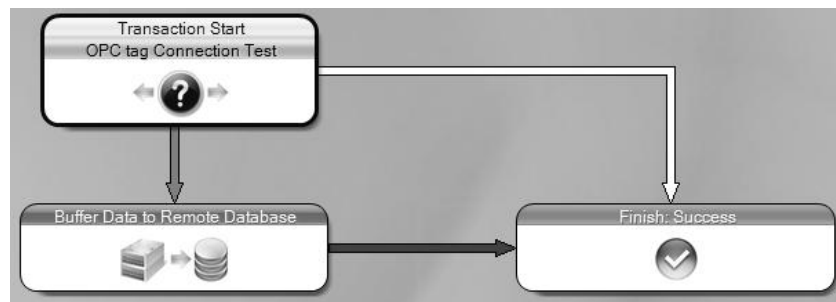

Figure L4.6 - Transaction Diagram
3. A **Select Connector Type** window will appear. Select **On False**. There will be a gray line between the blocks; rearrange the blocks now so they look like Figure L4.6.